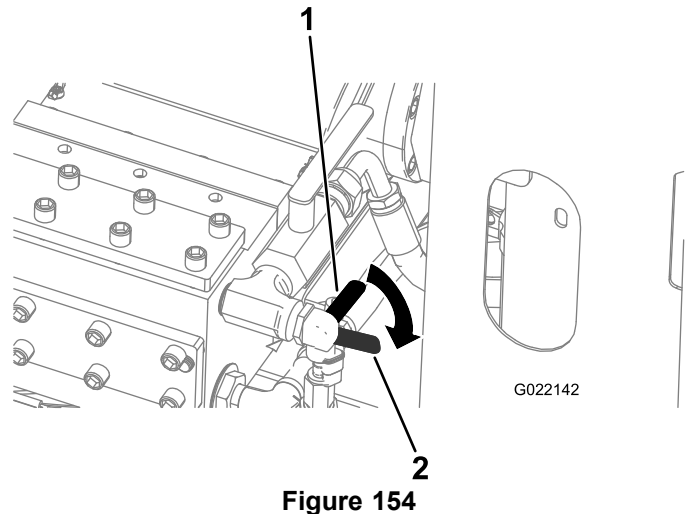

Figure 154
- A. Open the antifreeze valve on the front side of the drilling-fluid pump (the lower valve) as shown in Figure 154.
6. Close the antifreeze valve (Figure 154).